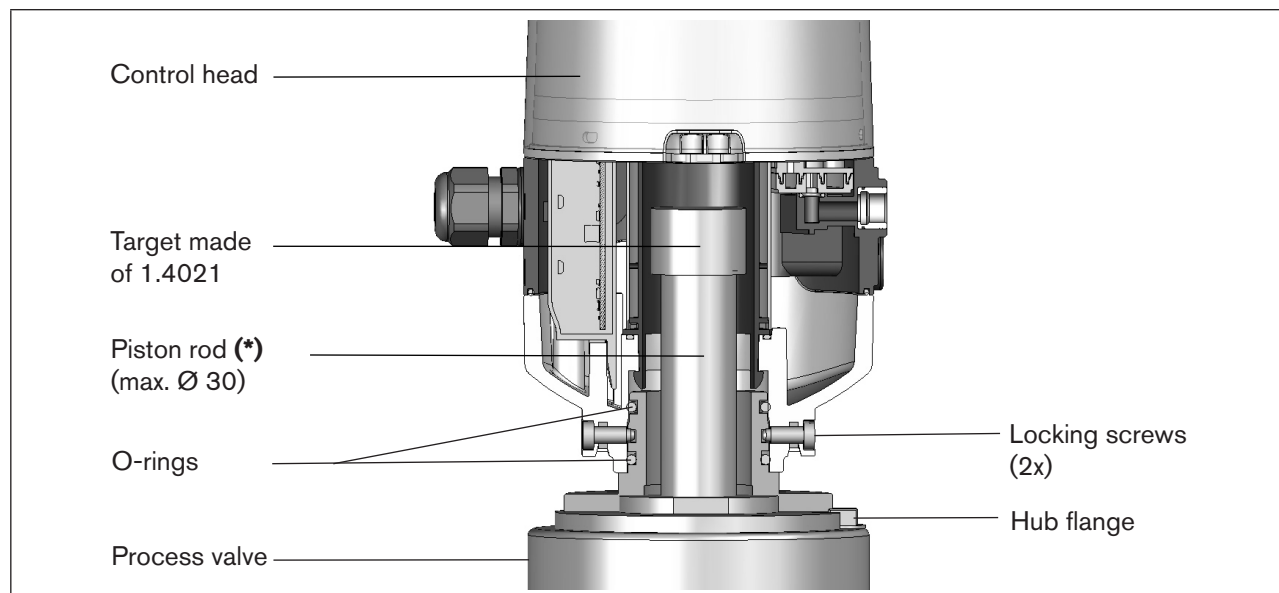

Fig. 10: Schematic diagram of the control head - process valve adaptation
- Secure control head with the two locking screws (shoulder screws M5) in the middle groove of the hub flange to prevent it from being pulled off the hub flange – tightening torque: max. 3.2 Nm (see “Fig. 10: Schematic diagram of the control head - process valve adaptation” and “7.2.3. Realignment of the control head”).